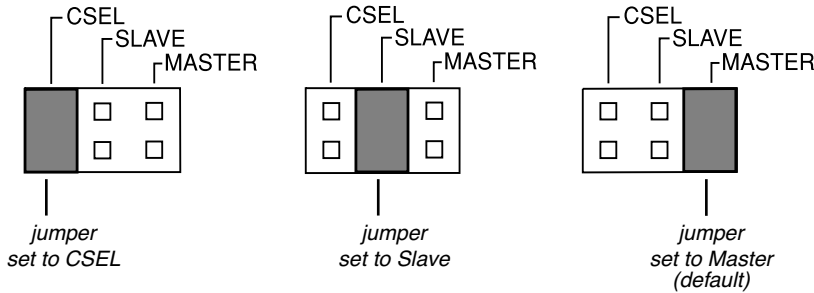

Figure 5. CSEL, Slave, and Master Jumper Pin Settings
- ⑨ CSEL/Slave/Master configuration jumper:** The CD-RW drive includes three pairs of jumper pins on the rear panel that allow you to set the drive to CSEL, Slave, or Master mode. (For more information, see “Configuring the CD-RW Drive” and Figure 5 on page 7.)